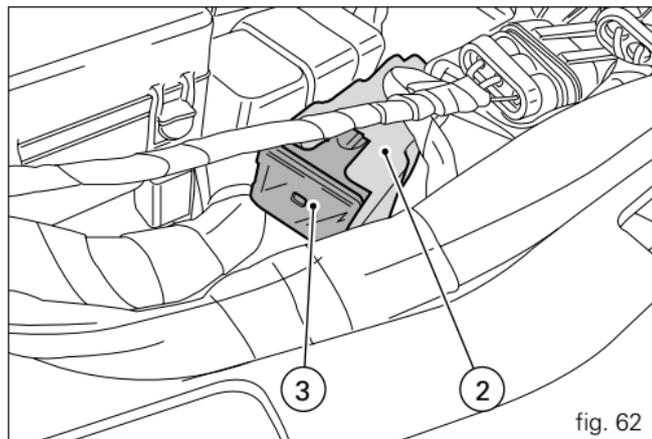

fig. 62
The 30 A fuse (2) on the side of the fusebox (fig. 62) protects the electronic voltage regulator.